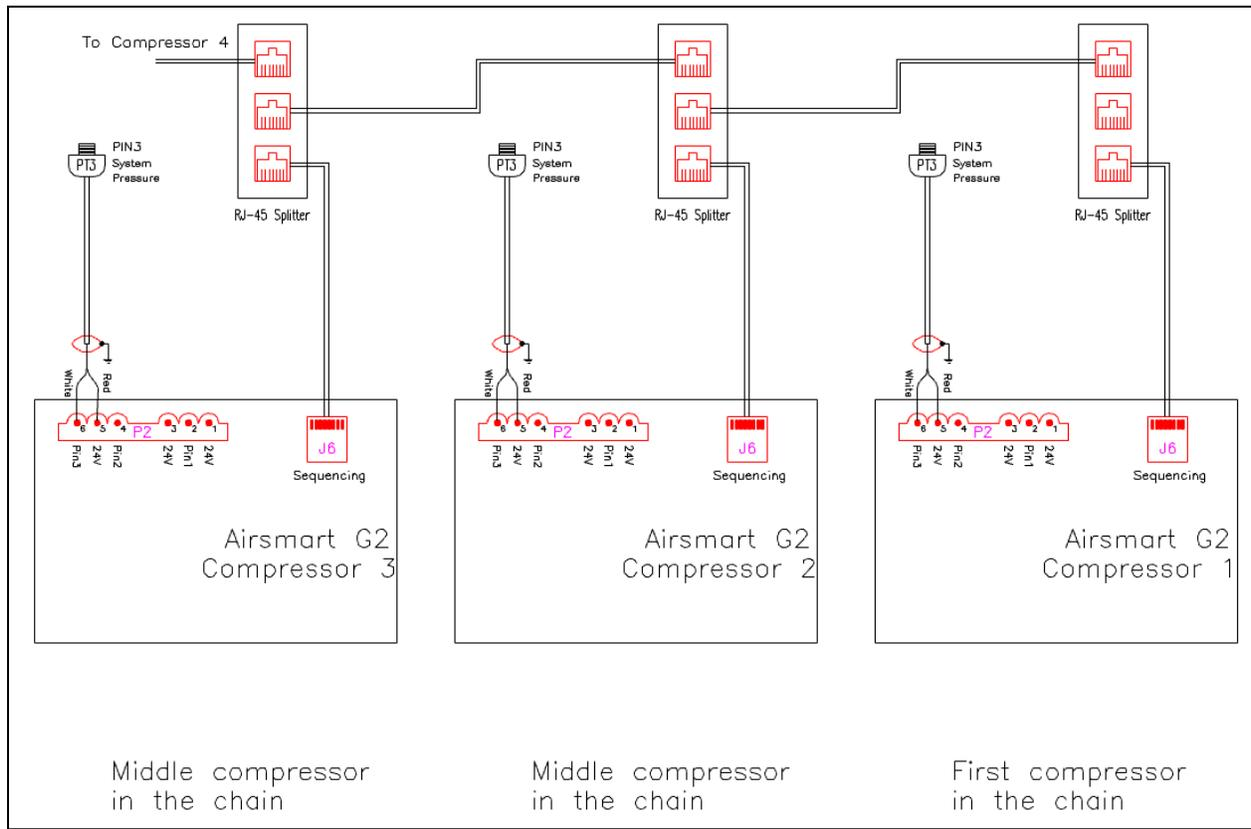

Figure 2-1- Sequencing Electrical Connections
4. Using the pressure transducer harness (GDI Part No. VP1033693), connect pressure transducer to AirSmart G2 controller. Connect the red wire to pin 5 on connector P2, and the white wire to pin 6 on connector P2, as shown in **Figure 2-1 – Sequencing Electrical Connections**. Do nothing with the black wire.
11. Reference the above steps as needed to connect multiple compressors in sequence configuration. Overall electrical sequenced connections should resemble those described in **Figure 2-1 - Sequencing Electrical Connections**